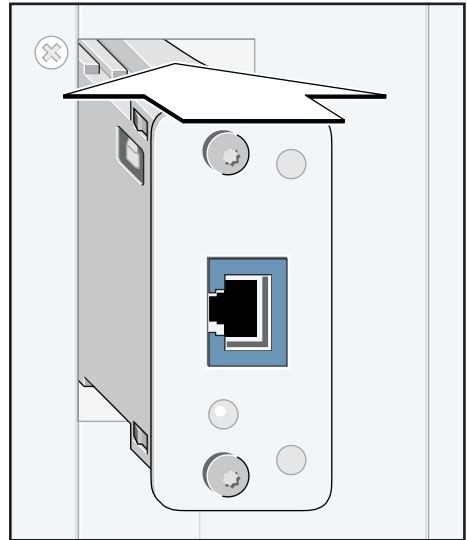

Fig. 2: Example: Inserting the interface module
2. Insert the IMmtcp interface module into the appropriate slot on the system component until it catches (example in Fig. 2).